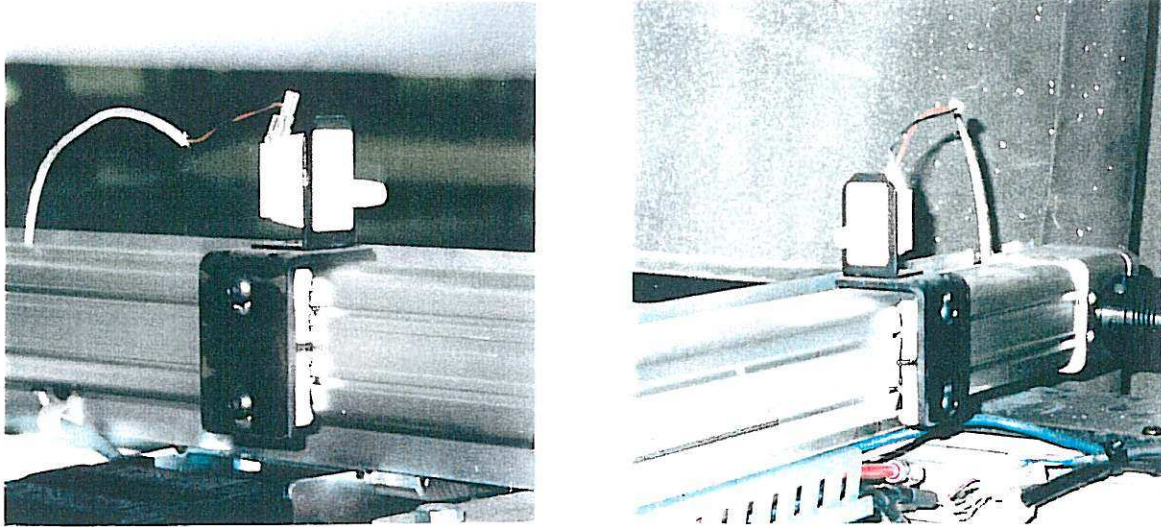

Figure 4.5
J. Y-axis Overtravel Limits: Located at the front and back of the right Y-axis drive. See *Figure 4.5*. Prevents the frame from crashing into the sewhead when moving in the Y direction.